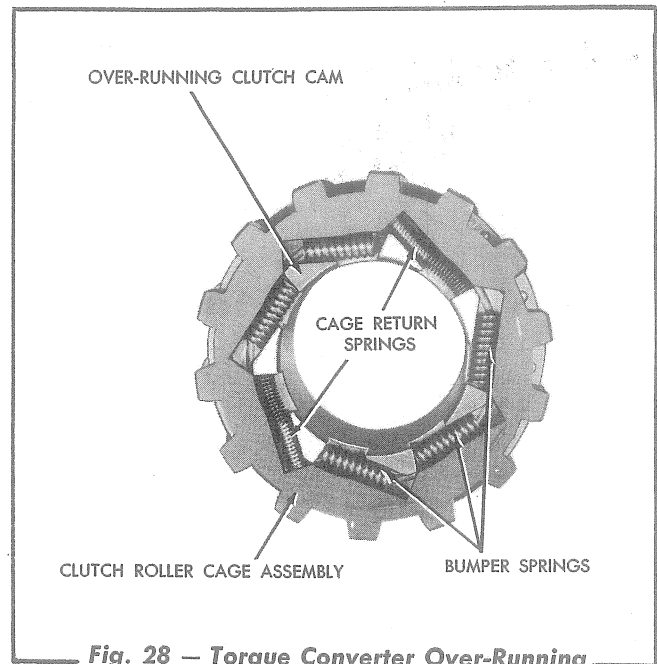

Fig. 28 — Torque Converter Over-Running Clutch Springs — Installed
- c. Install the two cage return springs in position on their guiding pins in the clutch roller cage assembly, then install the cage on the clutch cam, compressing the return springs, and placing the free ends of the springs against the stops on the cam. Install the five bumper springs in position in the roller cage (refer to Fig. 28). Oscillate the roller cage on the cam against the springs; the springs should return the cam to its normal position. The roller cage must operate freely after it is installed.